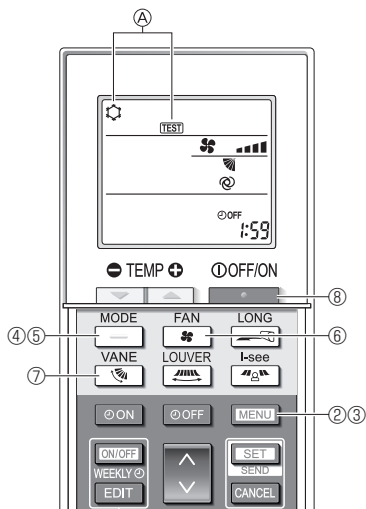

Fig. 7-8
- ① Turn on the power to the unit at least 12 hours before the test run.
- ② Press the **MENU** button for 5 seconds. (Fig. 7-8)
- ③ Press the **MENU** button.
④ **[TEST]** and the current operation mode are displayed. (Fig. 7-8)
- ④ Press the **—** button to activate cool mode, then check whether cool air is blown out from the unit.
- ⑤ Press the **—** button to activate heat mode, then check whether warm air is blown out from the unit.
- ⑥ Press the **—** button and check whether the fan speed changes.
- ⑦ Press the **—** button and check whether the auto vane operates properly.
- ⑧ Press the **—** button to stop the test run.